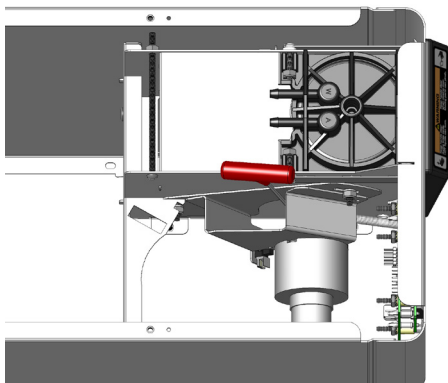

FIG 21-1 Loosen top Allen screw.
4. Loosen top Allen screw (farthest from motor). FIG 21-1.